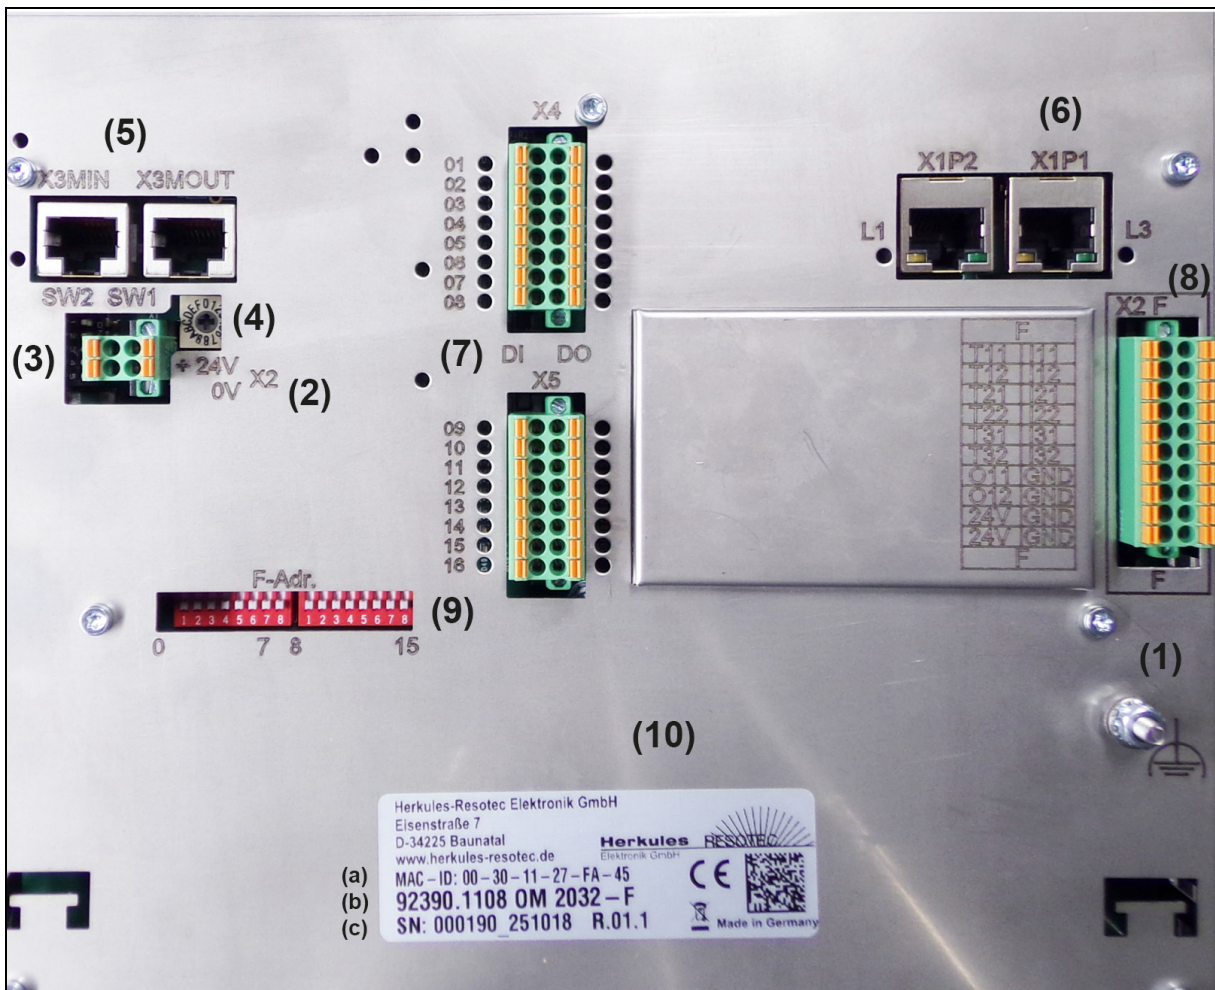

Fig.4.3: Rear side using the example of the module OM 2032-F
Fig. 4.3 shows the maximum structure of the rear side of the module. The pin assignment (1) to (5) is the same for all module types. Depending on the device type, the other connections are located on the rear, which are explained in the corresponding chapters.